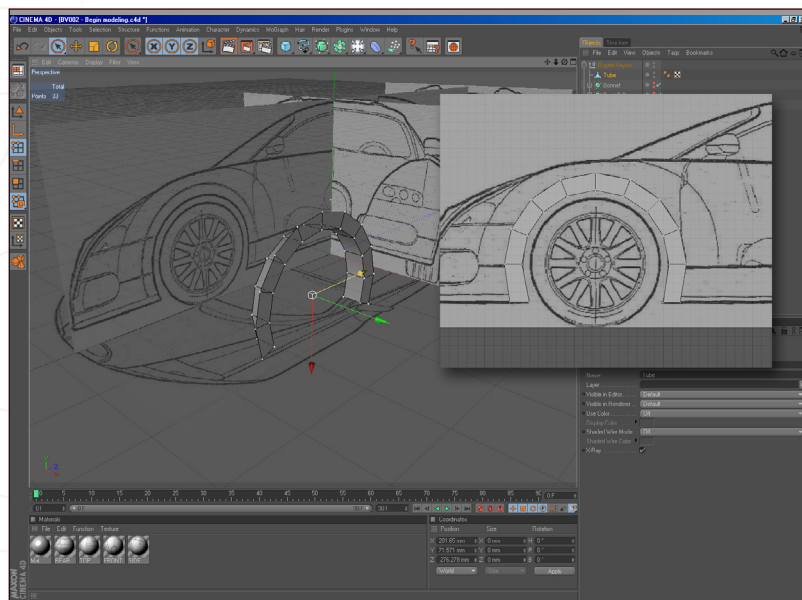

Fig 05
5. Add a tube to the scene and position/rotate it around the front wheel axis. Give the tube 16 rotation segments, then make the tube editable and delete the polygons, as shown in **Fig05**. Make sure you delete any adjoining triangles, then select points mode and deselect all points. Right-click and select Optimize, then click OK. This will weld any points that share the same position and will connect all of the polygons together. This is a quick way of creating a wheel arch that is even and round (**Fig05**).